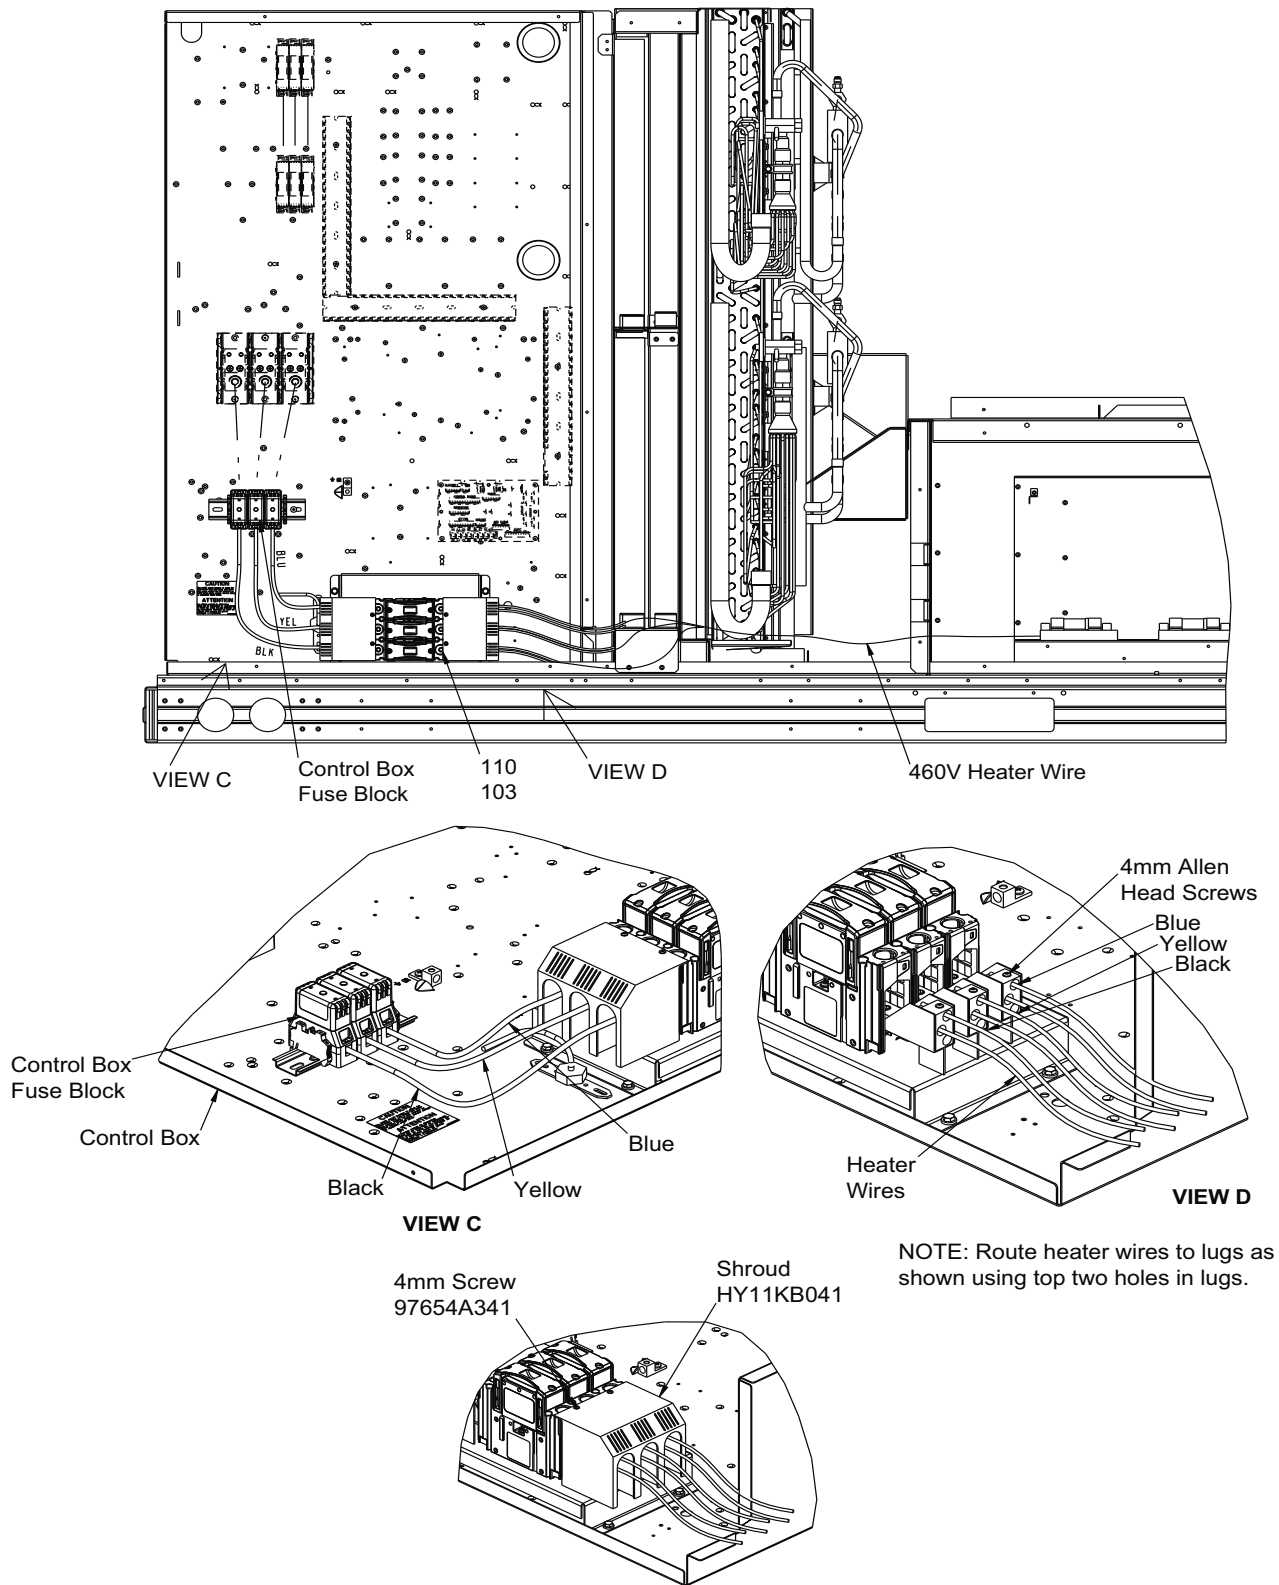

Fig. 50 — 460V Single Point Power Assembly Location (High SCCR)
1. Remove shroud screws and shroud. Install fuse block assembly in location shown in Fig. 50.